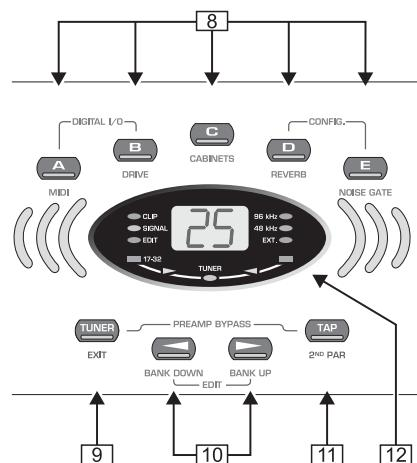

Fig. 2.2: V-AMP PRO front panel (section 2)
- 7 If the **TAP** key **11** is down (see fig. 2.2), the **TREBLE** control functions as a **PRESENCE** control. This enables you to boost/cut a high-frequency filter tuned to whatever amp model is active, thus simulating the frequency-dependent coupling of tube amps.